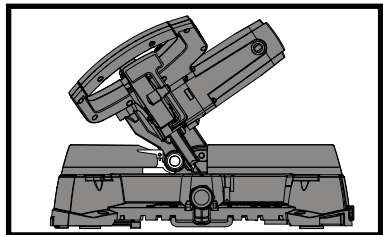

Fig 21
- 1) Set the cutting head to 33.9° by deploying the crown moulding pin. Check the angle of the blade against the machine table using the vernier angle gauge. (See fig. 21)